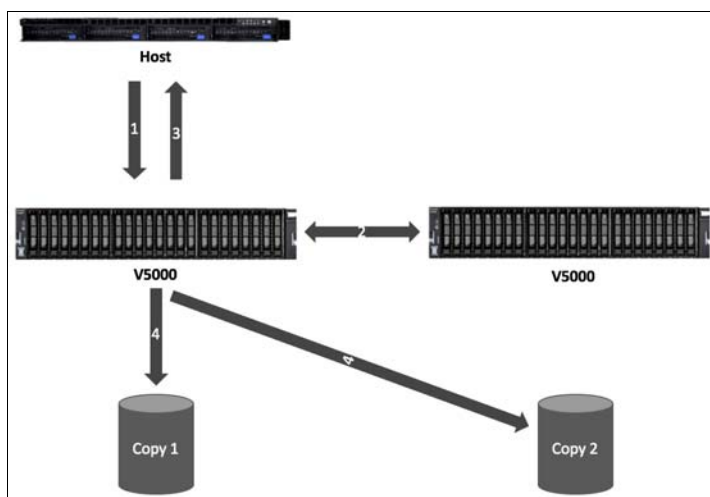

Figure 6-5 Data flow for write I/O processing in a mirrored volume
For write I/O operations to a mirrored volume, the preferred node definition, with the multipathing driver on the host, is used to determine the preferred path. The host routes the I/Os through the preferred path, and the corresponding node is responsible for further destaging written data from cache to both volume copies. Figure 6-5 shows the data flow for write I/O processing when volume mirroring is used.
As shown in Figure 6-5, all the writes are sent by the host to the preferred node for each volume (1). Then, the data is mirrored to the cache of the partner node in the I/O Group (2), and acknowledgment of the write operation is sent to the host (3). The preferred node then destages the written data to the two volume copies (4).